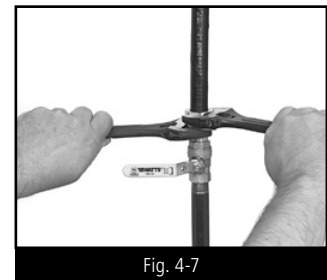

Fig. 4-7
**STEP 5 WRENCH FITTING (FIG. 4-7)**